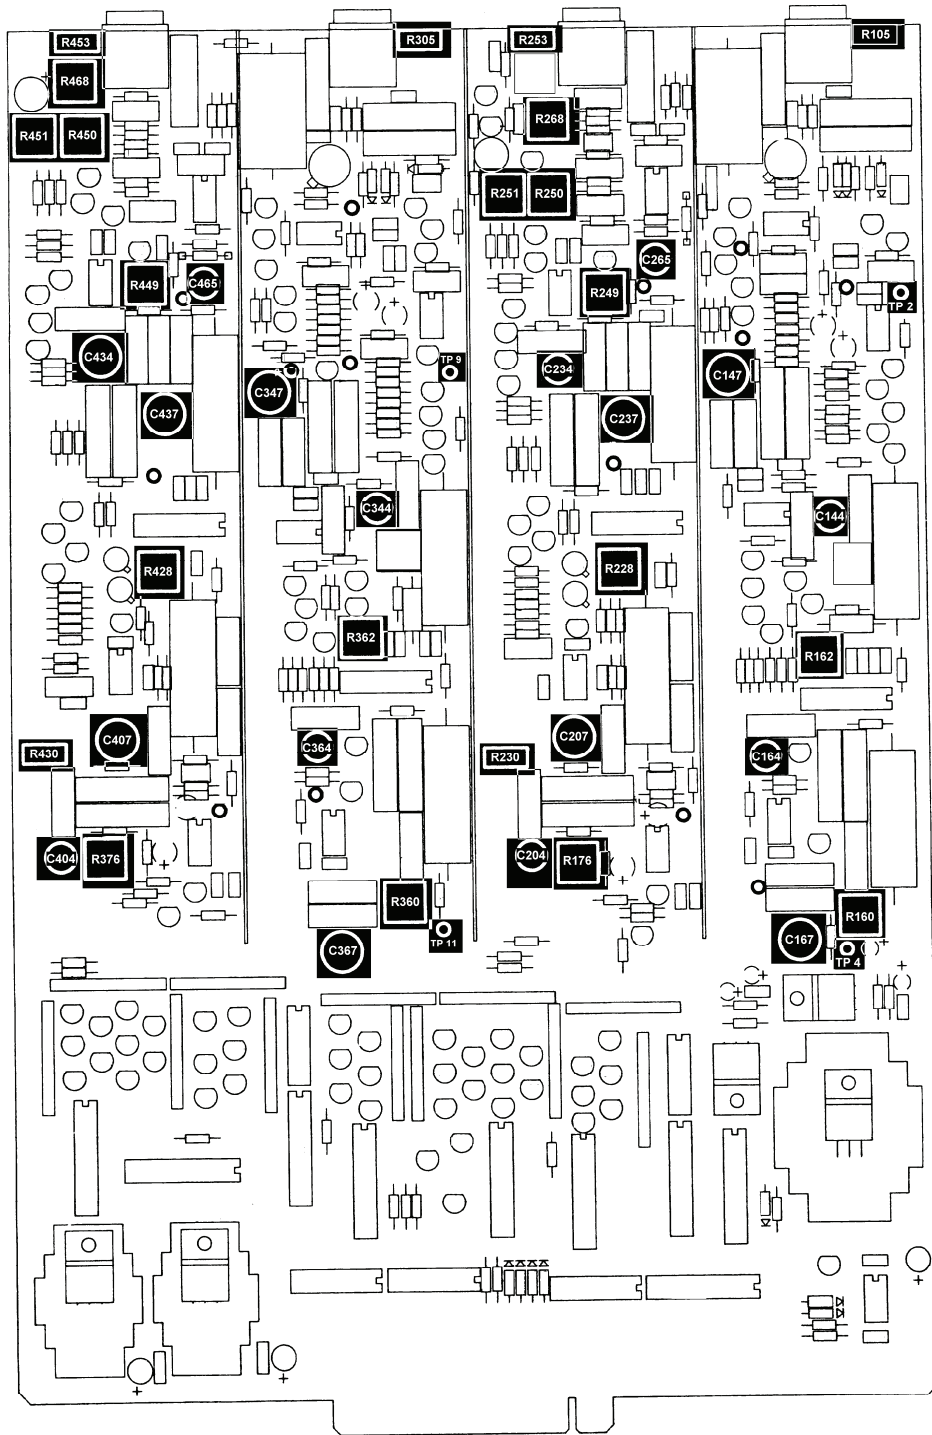

Figure 1. Motherboard.
- g. Adjust DC ADJ R253 (fig. 1), located to the right of rear panel **CH 1 OUTPUT BNC** connector for multimeter indication of 0 V dc  $\pm 1$  mVdc.
- i. Adjust R268 (fig. 1) until multimeter indicates between 0 V dc  $\pm 1$  mVdc.
- l. Press corresponding keys as listed in (1) through (3) below and verify **CUTOFF FREQUENCY** indicates **2.000**.
- (1) **2** data entry key.
- (2) **KILO** parameter key.
- (3) **FREQ** parameter key.
**s.** Adjust R176 (fig. 1) for multimeter indication of 0 V dc  $\pm 1$  mVdc.